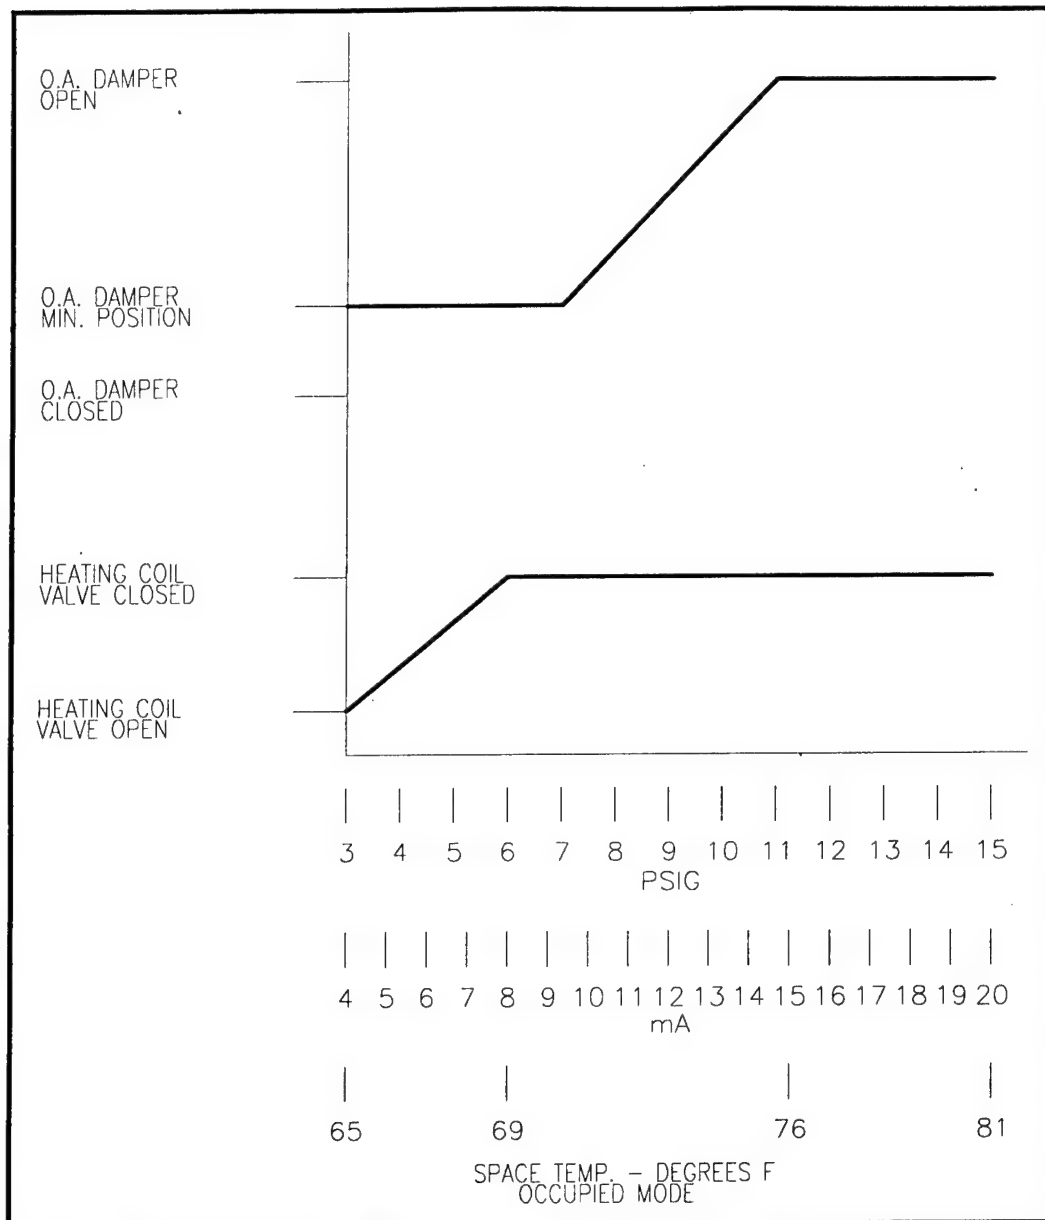

Figure 4. Typical sequencing schedule.
Sequencing schedules (Figure 4) illustrate the relationship between the process variable (temperature, pressure, flow, relative humidity) and the positions of the controlled devices when the control system is in the occupied mode. Information provided in the sequencing schedule includes the relationship between the Process Variable (PV) space temperature ( $^{\circ}\text{F}$  sensed by controller TC XX-01), the controller output signal in milliamps, and the current to pneumatic transducer (IP XX-01 and IP XX-02) output signals in units of pounds per square inch.